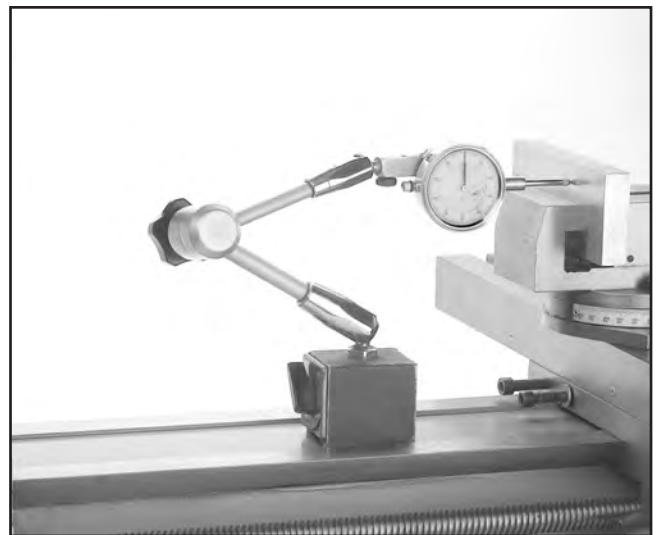

Figure 59. Using a parallel in the vise jaws.
3. Place a dial indicator mounted to a magnetic base on the lathe bed using a parallel clamped in the vise jaws (**Figure 59**).